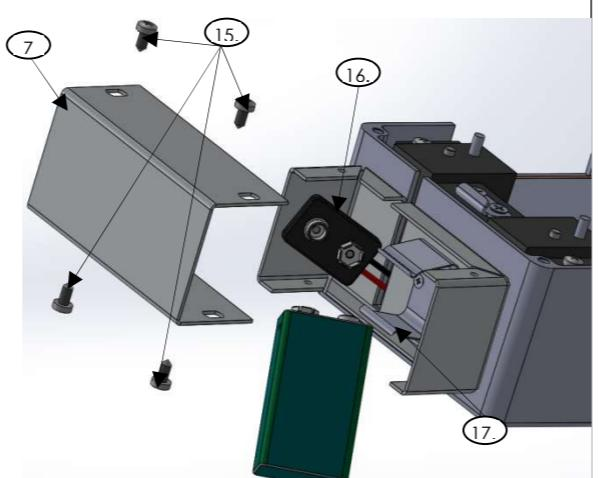

Figure 8 : Chaging the battery
- To install or replace the battery (figure 8)
- Unscrew the 4 screws (15) of the battery housing using a Philips screwdriver.
- Remove the cover (7).
- Remove the existing battery from the battery holder (17) and disconnect it, taking care not to pull on the connector wires (16).
- Connect a new 9V alkaline battery type 6LF22 to connector (16).
- Insert the battery into the holder (17).
- Close the cover (7) and retighten the screws (15).